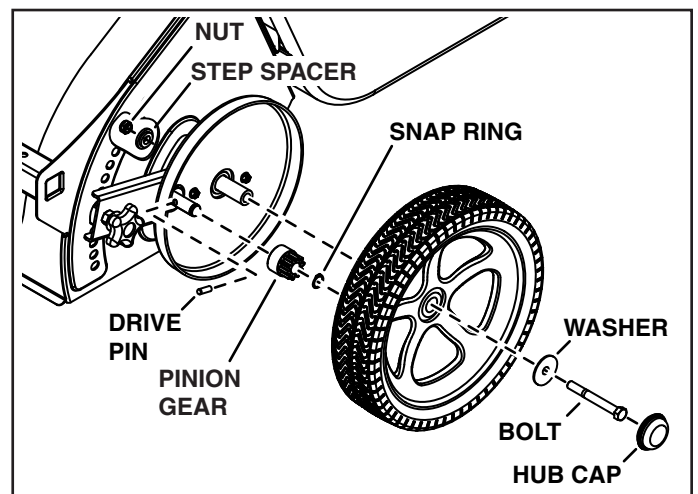

FIGURE 22
4. Every year, remove the wheels and clean the teeth on the gears and wheels. After cleaning, lubricate the axles and the teeth on the gears and wheels with a light coat of grease. To remove a wheel, pop off the hub cap to expose the head of the bolt. Remove the nut and step spacer from the bolt and then remove the wheel along with the bolt and washers. When re-assembling, be sure the step spacer is properly seated in the hole in the sweeper housing. Refer to "Gear and Drive Pin Service" and figure 22 on page 11.